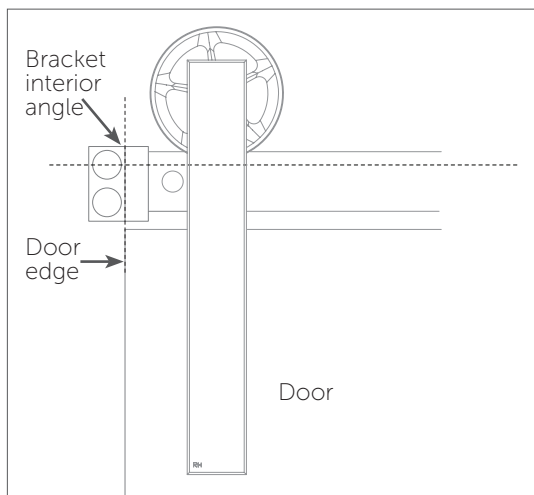

Figure 2
3. The interior angle of the bracket should be in line with the edge of the door. This is individual preference and will depend on how far beyond the doorway the door will overlap. Draw a vertical line where the door will hang in the closed position. (Figure 2).
4. Position an end bracket so the interior angle of the bracket is in line with the vertical line and the line above the door is centered in the top hole of the bracket (Figure 2). Using a pencil, mark the position of both top and bottom holes.